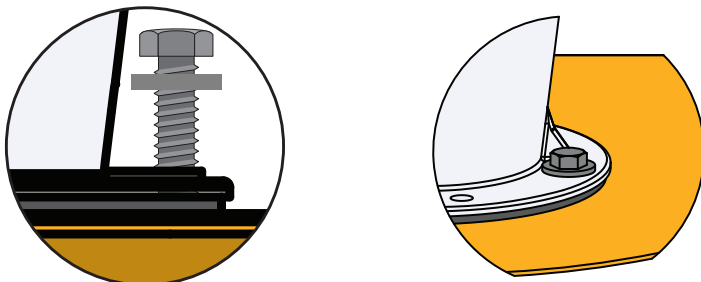

FIG. 9
Align a Washer (D) over one of the Cyclone's mounting holes and insert a Bolt (C) through to the Wall Bracket (F) to aid in positioning the remaining components [FIG. 9].